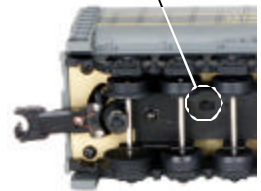

Figure 5. Smoke Switch
2. If you choose not to prime the unit with fluid, turn the smoke unit switch located under the tender to the OFF position (Fig. 5 on pg. 12). Running the engine without a primed smoke unit may cause damage. See the “ProtoSmoke Unit Operation” section of this book for more information on smoke unit maintenance.
- If you choose not to add the fluid (or have already added the fluid but choose to run smoke-free), turn off the smoke unit switch located under the tender body (see Fig. 5). Failure either to add fluid to the unit or to turn it off may damage the smoke unit heating element and/or wicking material.